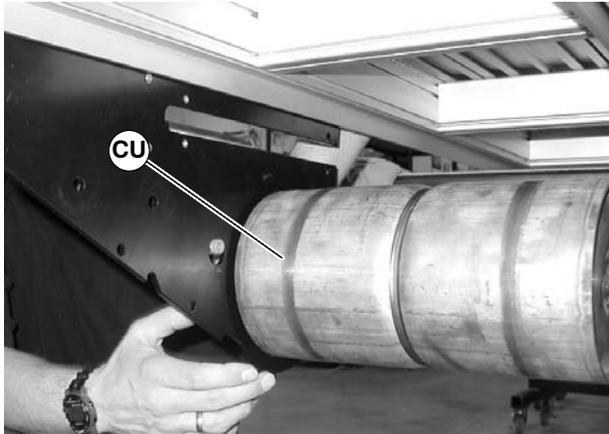

Figure 83
- Slide drive pulley (CU of Figure 83) out of attached side plate.